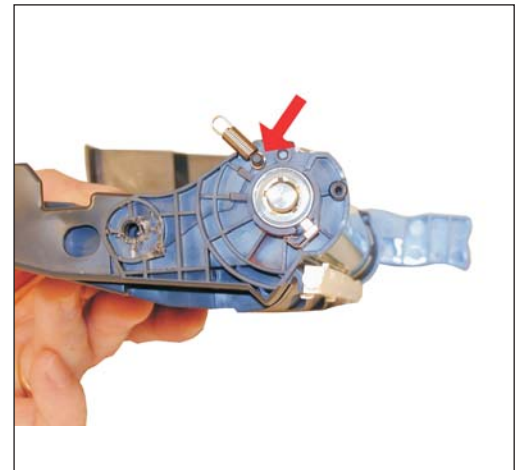

Figure 52
28) Install the small spring onto the post, install the handle and screw. Place the completed waste chamber aside. See Figures 52 & 53